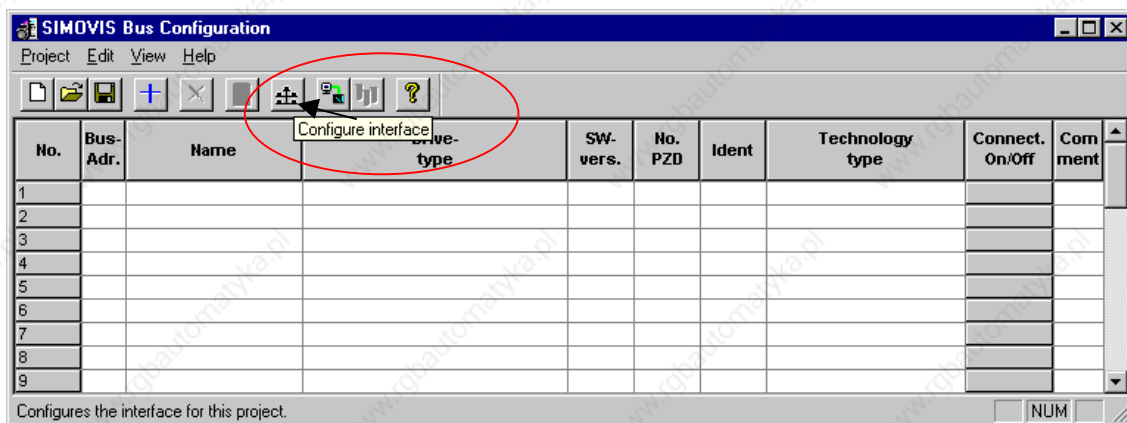
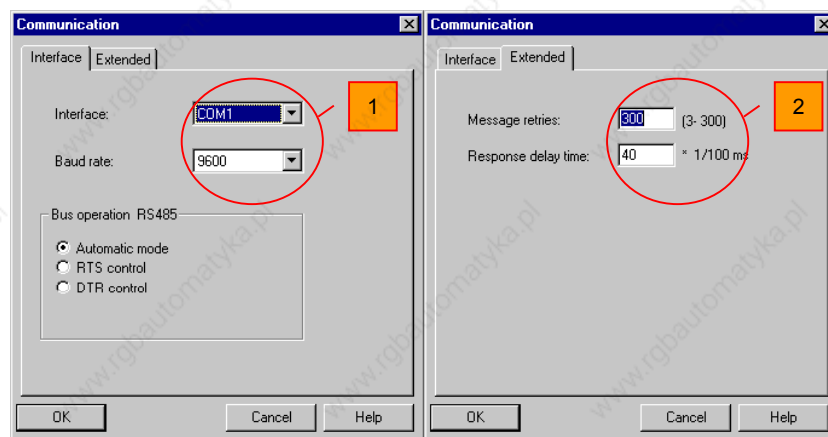

Fig. 5-10 Configuring the interface
Fig. 5-11 Communication
If the toolbar is being displayed, click on button *Configure interface* (see Fig. 5-10) or select the menu command *Edit* → *Interface*. In window "Communication" you can then specify the required COM interface of the PC (COM1 to COM4) and the required baudrate (see Fig. 5-11[1]).
- ◆ Request repetitions and response timeout on tab card "Extended", (see Fig. 5-11 [2]). Here, you can increase the values already set if communication errors occur frequently.